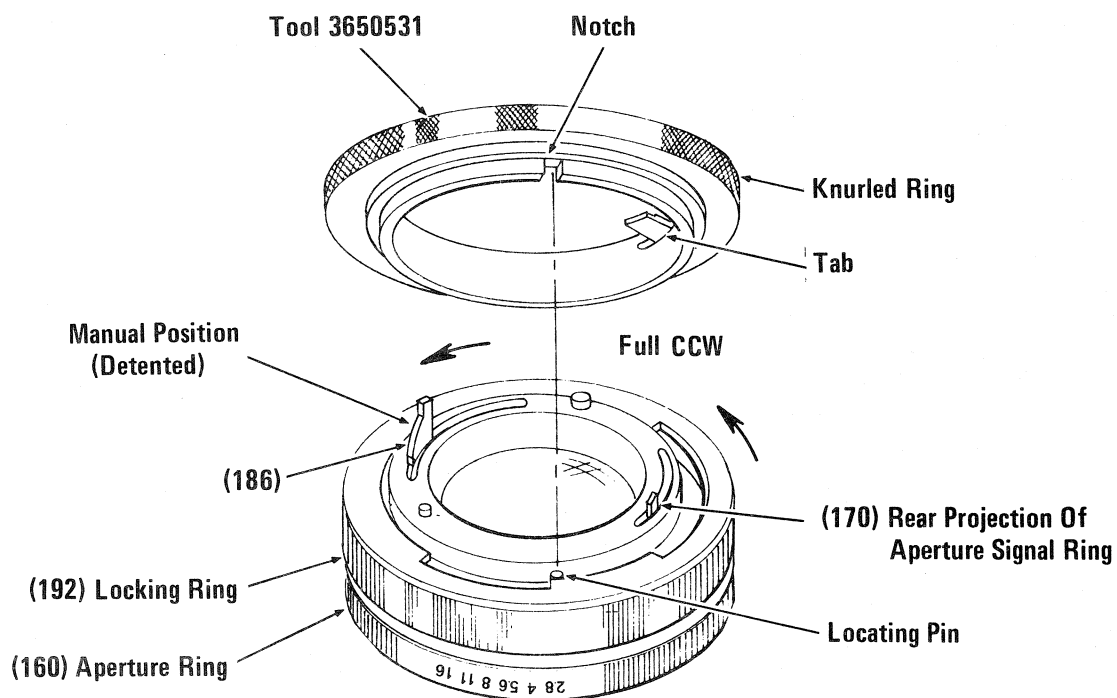

FIG. 9-7
1. Set automatic/manual aperture ring (186) to the manual position.
2. Viewing the mount from the rear, rotate locking ring (192) fully counterclockwise.
3. Set the aperture ring (160) to f/2.8. Fig. 9-7.
b) Place Tool No. 3650531 on Canon mount so that notch in tool fits down over locating pin of mount. Fig. 9-7.